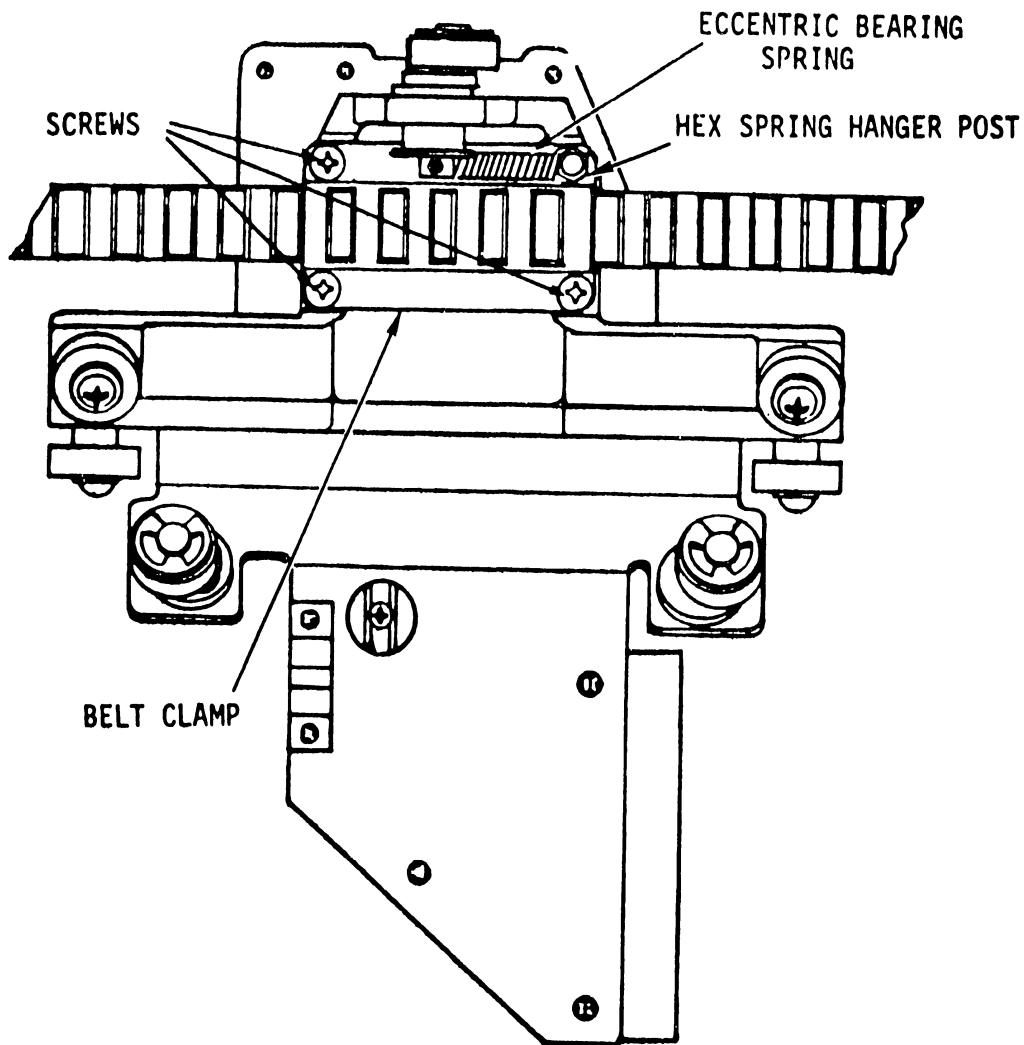

FIGURE 5-5 MAIN DRIVE BELT REMOVAL AND REPLACEMENT
- 2) With carriage removed and assembly upside down, remove the eccentric bearing spring. (See Figure 5-5.)